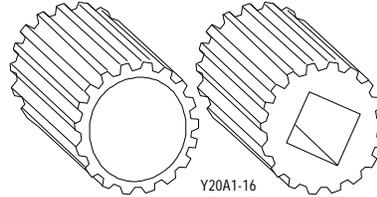

Figure 16: Pinion Gear Ends
2. Insert the pinion gear into the gear housing with the square hole end (Figure 16) over the actuator shaft.